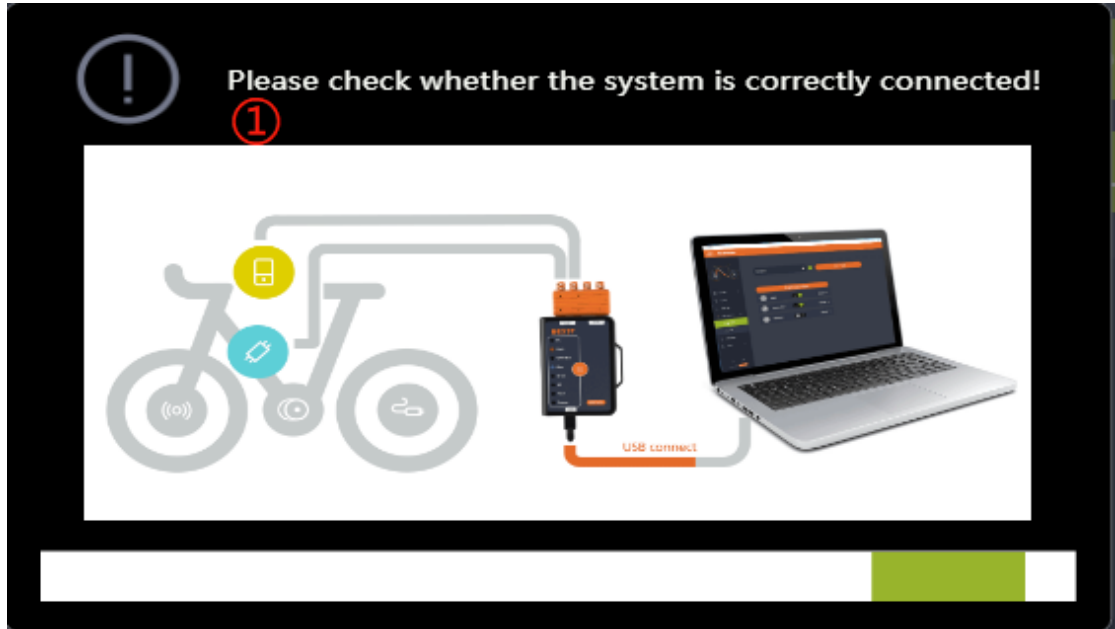

Fig. 3-1 Part inspection
- (1) After logging in, the system will detect the connection of the whole bicycle parts and prompt the user to check whether the system is correctly connected (e.g. Fig. 3-1);